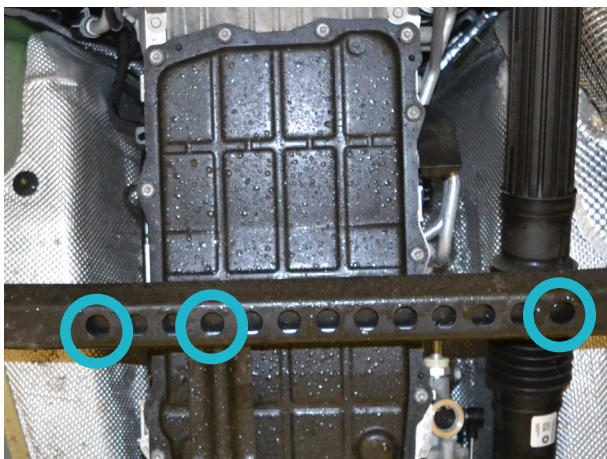

Fig.9
4. Install insert nut M8 with wires (pos.I) into vehicle crossbar (fig.9).
10. Install insert nut M8 with wires (pos.I) into vehicle crossbar (fig.9).